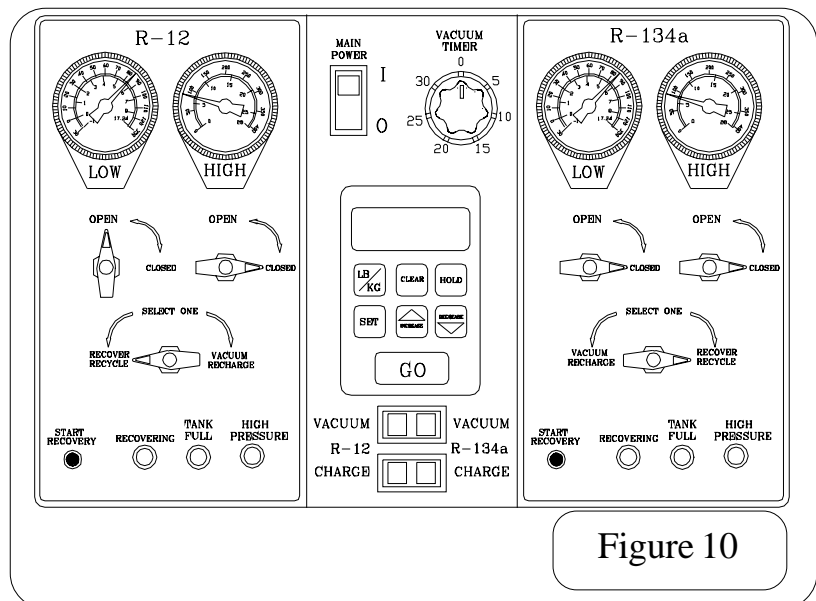

Figure 10
8. Turn selector valve on the R-12 side to Recover/Recycle. (Refer to Figure 10).